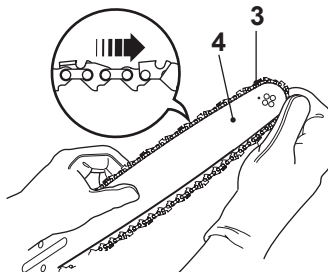

Fig. 2
3. Place the product with drive sprocket (23) facing upwards.
4. Spread the saw chain (3) out with the cutting edges of the chain pointing in the rotational direction and slide the chain into the groove around the guide bar (4) (Fig. 2).